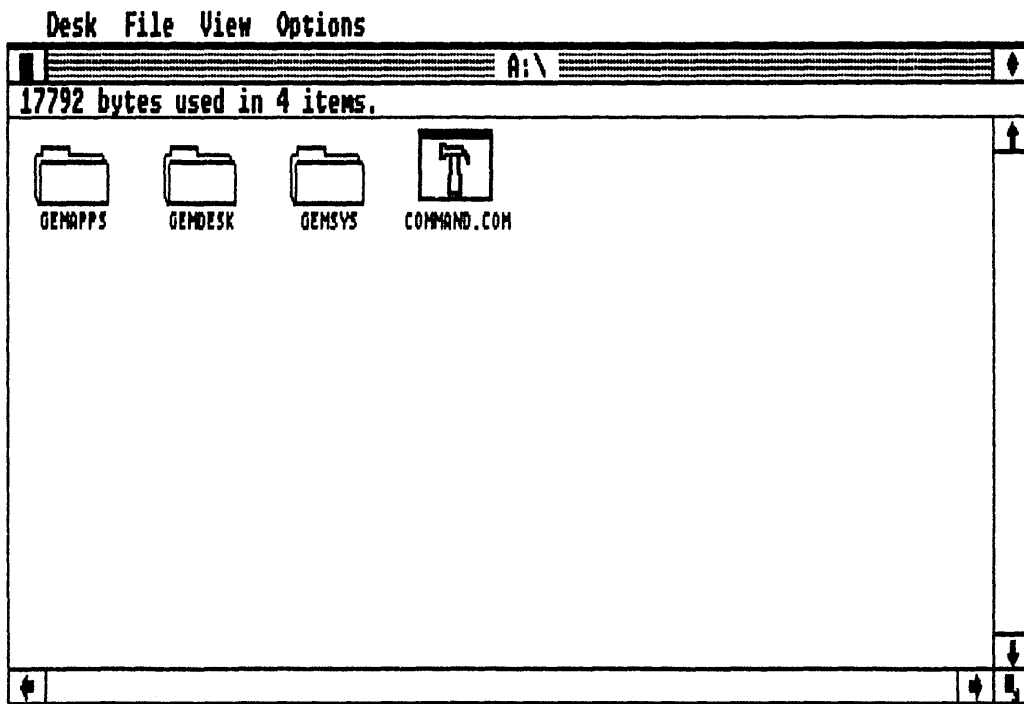

Fig. 1-9. Clicking in the Full Box makes the active window fill the entire screen. Clicking the Full Box a second time reduces the window to its original size.
**Full Box.** *Full Box* is used for quickly changing the size of the active window. Clicking on the Full Box makes the active window fill the entire desktop work area. Clicking on the Full Box a second time returns the active window to its previous size and position (Fig. 1-9).